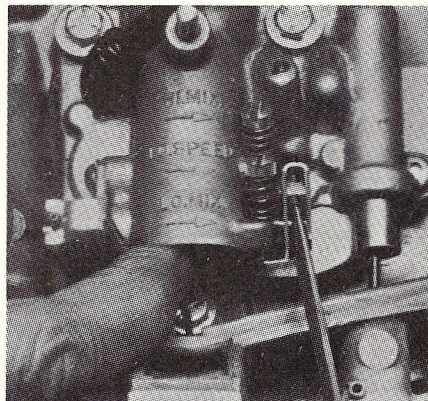
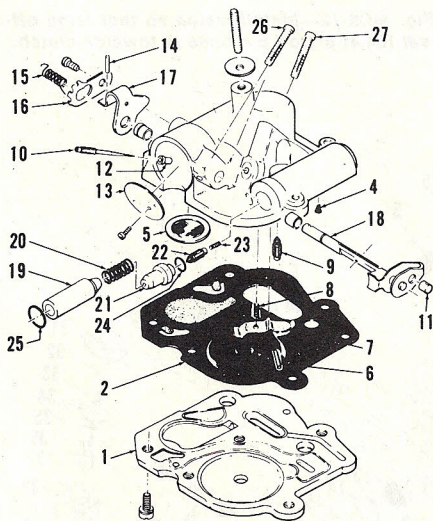
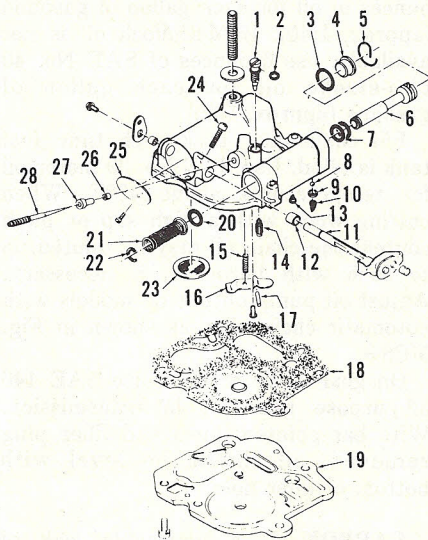

Fig. MC6-2—Keep finger on throttle butterfly as shown when adjusting carburetor. Refer to text for procedure.
Fig. MC6-4—Exploded view of early Model "W" series carburetor. Refer to Fig. MC6-1 for view of carburetor installed.
Fig. MC6-5—Exploded view of later Model "W" series carburetor. Refer to Fig. MC6-4 for view of early model.
McCulloch series "W" carburetor was manufactured as two different models. Early model is shown in Fig. MC6-4 and later model is shown in Fig. MC6-5. On early models, fuel is metered by an adjustable needle valve attached to the throttle shaft. On later models, this only adjusts idle mixture. High speed operation on early models is controlled by an adjusting screw which determines throttle plate opening. Later models utilize a fuel needle for high speed adjustment. Both models use a primer plunger for choking operation. Choking on early models is accomplished by forcing fuel past needle valve into the carburetor bore. Later models force fuel from a chamber into the carburetor bore.
Be sure primer operates correctly as fuel leaking into bore will change fuel mixture. Primer "O" rings must be installed correctly to prevent leakage. Some plungers shown in Fig. MC6-4 have a cup to retain "O" ring (25). Install cup 5/64-inch from end of primer housing bore as shown in Fig. MC6-6. Two types of primer plungers have been used on the carburetor shown in Fig. MC6-5. The rear groove of the plunger is 0.090 or 0.120 inch wide as shown in Fig. MC6-7. An "O" ring is used in the narrow groove while "V" packing is used in the wide groove as a service replacement.
butterfly as shown in Fig. MC6-2 and turn the idle mixture screw (3—Fig. MC6-1) clockwise until the butterfly starts to open, then turn the idle mixture needle three turns counter-clockwise. Return to the idle speed screw (2) and while holding finger against butterfly (4), turn idle air screw clockwise until butterfly begins to open, then continue to turn idle screw clockwise an additional 1/2-turn. Hold the throttle trigger in the wide open position, turn the high speed mixture screw (1) as required until throttle butterfly is in horizontal position. Now turn screw (1) clockwise until throttle butterfly (4) starts to close, then turn the high speed mixture screw two turns counter-clockwise. On later models, initial adjustment of main fuel needle (1—Fig. MC6-5) is 1 turn. Do not attempt to adjust throttle plate opening.